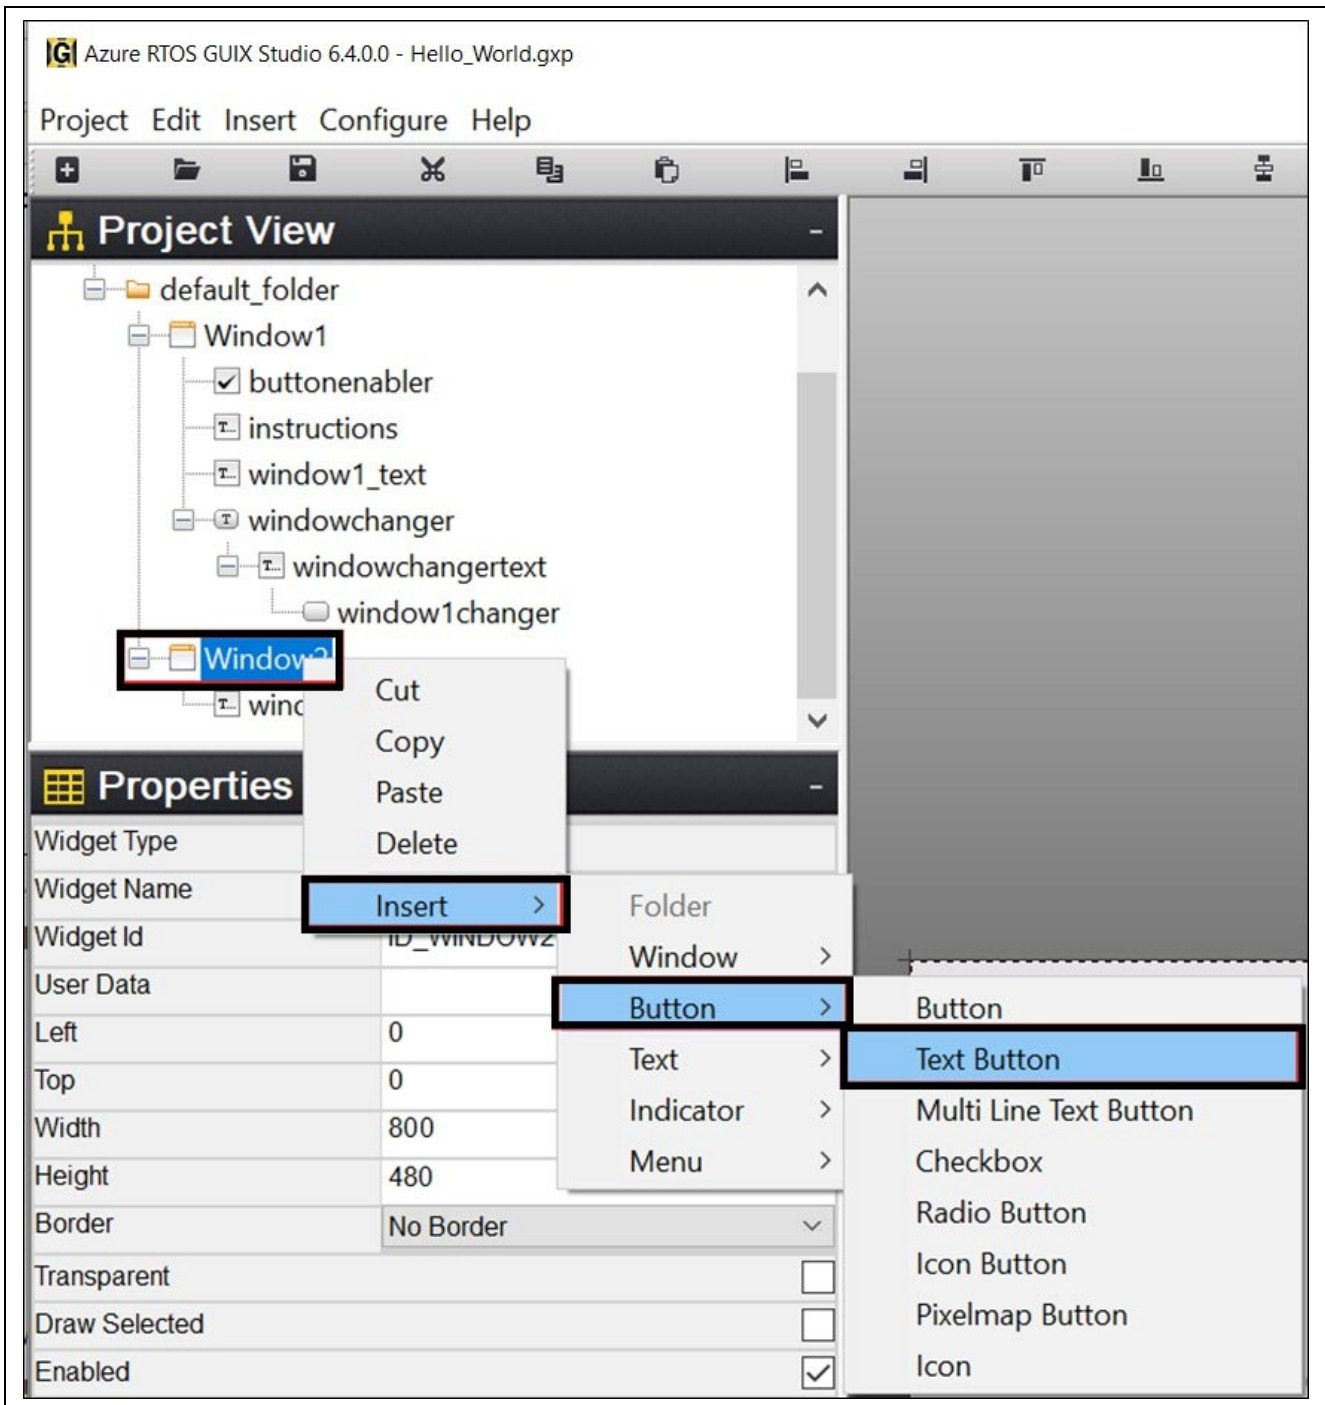

Figure 65. Insert text_button for Window2
28. Insert **text_button** for window2. Right click from **Window2** > **Insert** > **Button** > **Text_Button** follow Figure 65.